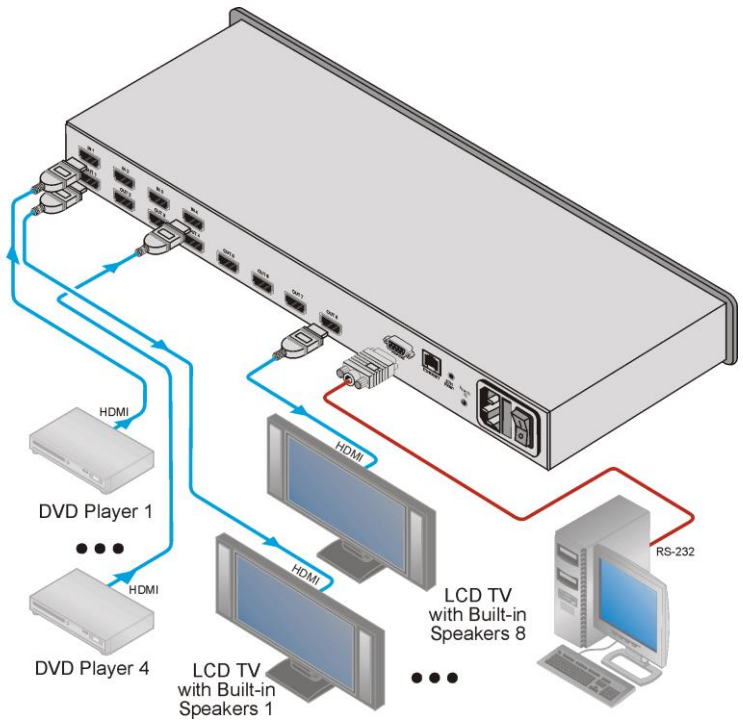

Figure 3: Connecting the VS-48HN 4x8 HDMI Matrix Switcher
To connect the VS-48HN 4x8 HDMI Matrix Switcher as illustrated in the example in Figure 3:
4. Connect the device to the mains electricity (not shown in Figure 3).